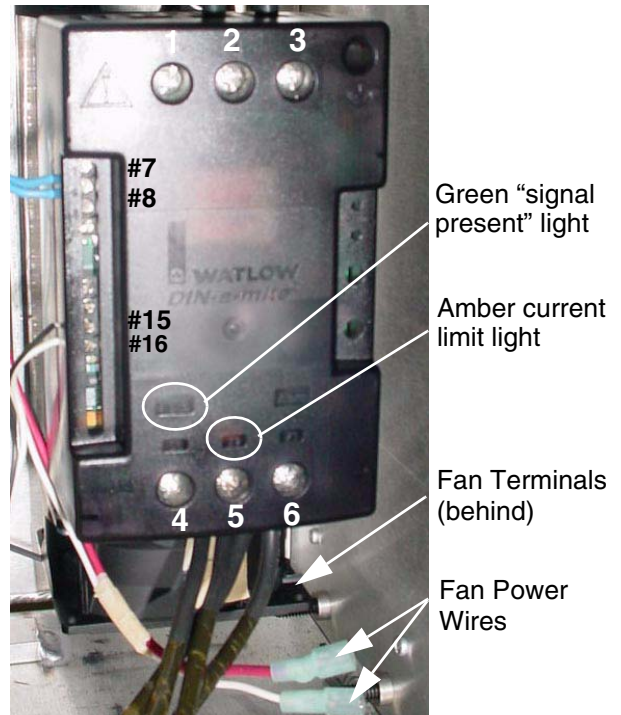

FIG. 5: H-20/35 Pro Hose Power Controller
5. Test newly installed hose power controller. See FIG. 5.